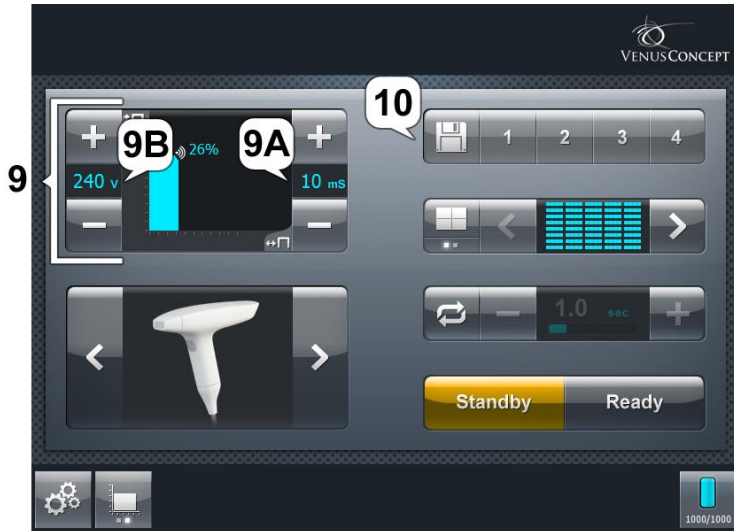

Figure 5-4: Advanced Treatment screen
8. **Advanced Settings Button:** This button allows qualified operators to control additional parameters related to the pulse fired by Firm FX applicator. Once this button is pressed, Advanced Treatment screen will be displayed with additional elements as described in Figure 5-4.